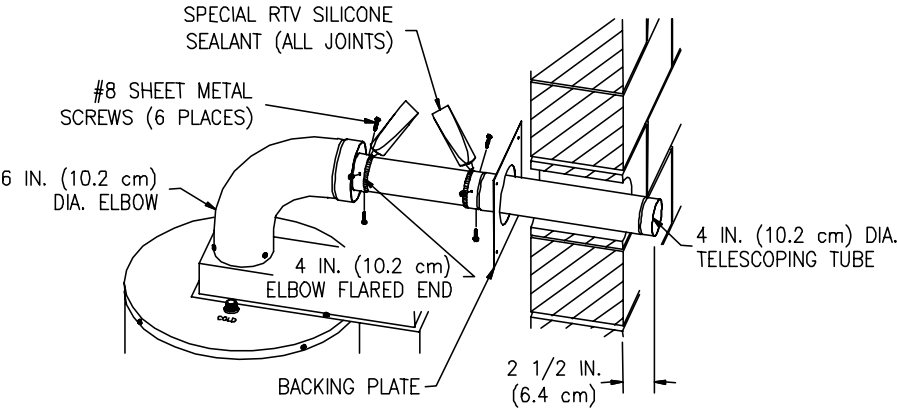

Figure 14a
Extend the four (4) inch (10.2 cm) diameter telescopic tube to its maximum length and slide the backing plate over it. Place the large end of the four (4) inch (10.2 cm) diameter telescopic tube through the hole in the outside wall. Insert the smaller end of the four (4) inch diameter (10.2 cm) telescopic tube into the flared end of the four (4) inch (10.2 cm) diameter elbow, one (1) inch (2.5 cm) (*or until seated*). Drill three (3) 1/8 (3.2 mm) inch diameter holes, 120° apart, through the four (4) inch (10.2 cm) diameter elbow into the four (4) inch (10.2 cm) diameter telescopic tube. Fasten with three (3) #8 sheet metal screws (supplied). Adjust the overall length of the four (4) inch (10.2 cm) diameter telescopic tube so that 2-1/2 inches (6.4 cm) *extends* beyond the outside wall. Drill three (3) 1/8 inch (3.2 mm) diameter holes, 120° apart, through the four (4) inch (10.2 cm) diameter telescopic tubes where the small and large sections overlap. Fasten with three (3) #8 sheet metal screws (supplied). Using the supplied RTV silicone sealant, apply a sufficient amount to seal all joints. (See Figure 14a).